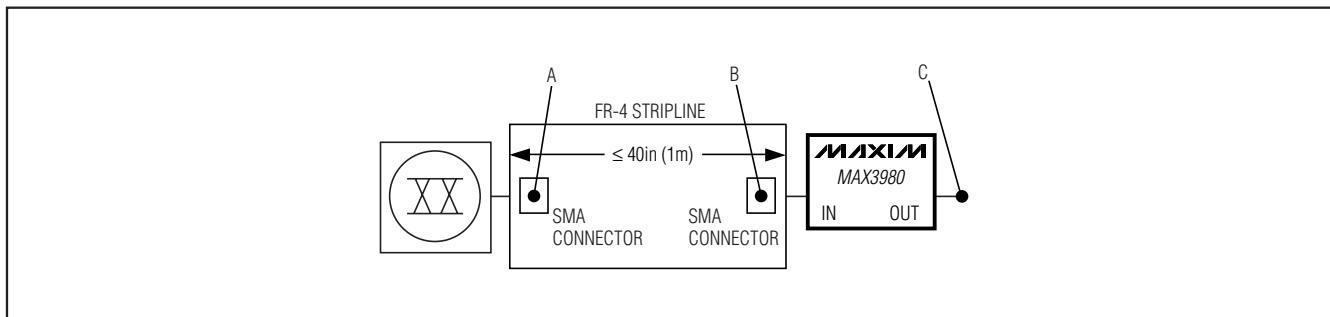

Figure 1. Test Conditions Referenced in the Electrical Characteristics Table
**Note 1:** K28.7 pattern is applied differentially at point A as shown in Figure 1.
**Note 2:** Total jitter does not include the signal source jitter. Total jitter (TJ) =  $[14.1 \times RJ + DJ]$  where RJ is random RMS jitter and DJ is maximum deterministic jitter. Signal source is a K28.5 $\pm$  pattern (**00 1111 1010 11 0000 0101**) for the deterministic jitter test and K28.7 (**0011111000**) or equivalent for the random jitter test. Residual jitter is that which remains after equalizing media-induced losses of the environment of Figure 1 or its equivalent. The deterministic jitter at point B must be from media-induced loss and not from clock-source modulation. Jitter is measured at 0 at point C of Figure 1.